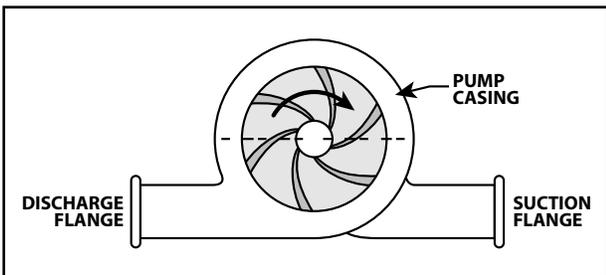

FIGURE 3. VANE POSITION FOR PROPER ROTATION
- a. Coat the shaft (10) lightly with oil.
- b. Place impeller key (7) in shaft keyway.
- c. Align impeller (4) on shaft and install with an arbor press or brass tubular sleeve and hammer. Guard against bending shaft. When assembled, the impeller vanes must rotate in the proper direction. (See Figure 3), and impeller hub must be centered on shaft journal.